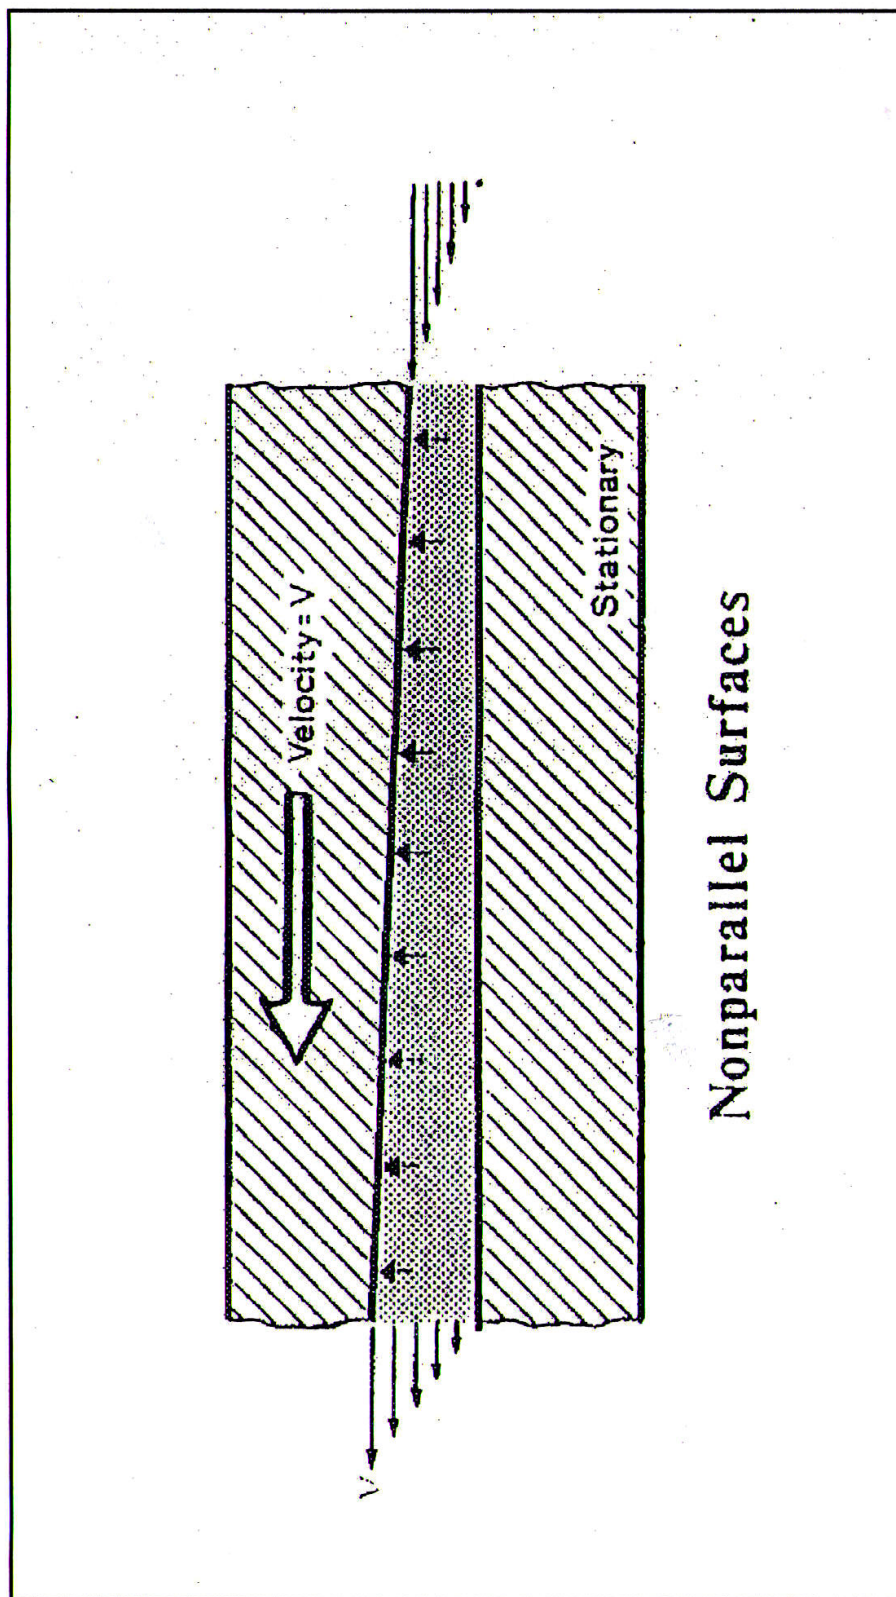

Figure 5-5 Wedge Formation
5.1.2.2 Wedge Formation - When lubrication is applied between two surfaces which are not parallel and relative motion occurs, a wedge of lubrication is formed. As shown in Figure 5-5, the layers of lubrication are forced through a narrowing space between the two surfaces. This creates an upward force which supports the loads imposed on the shaft while keeping